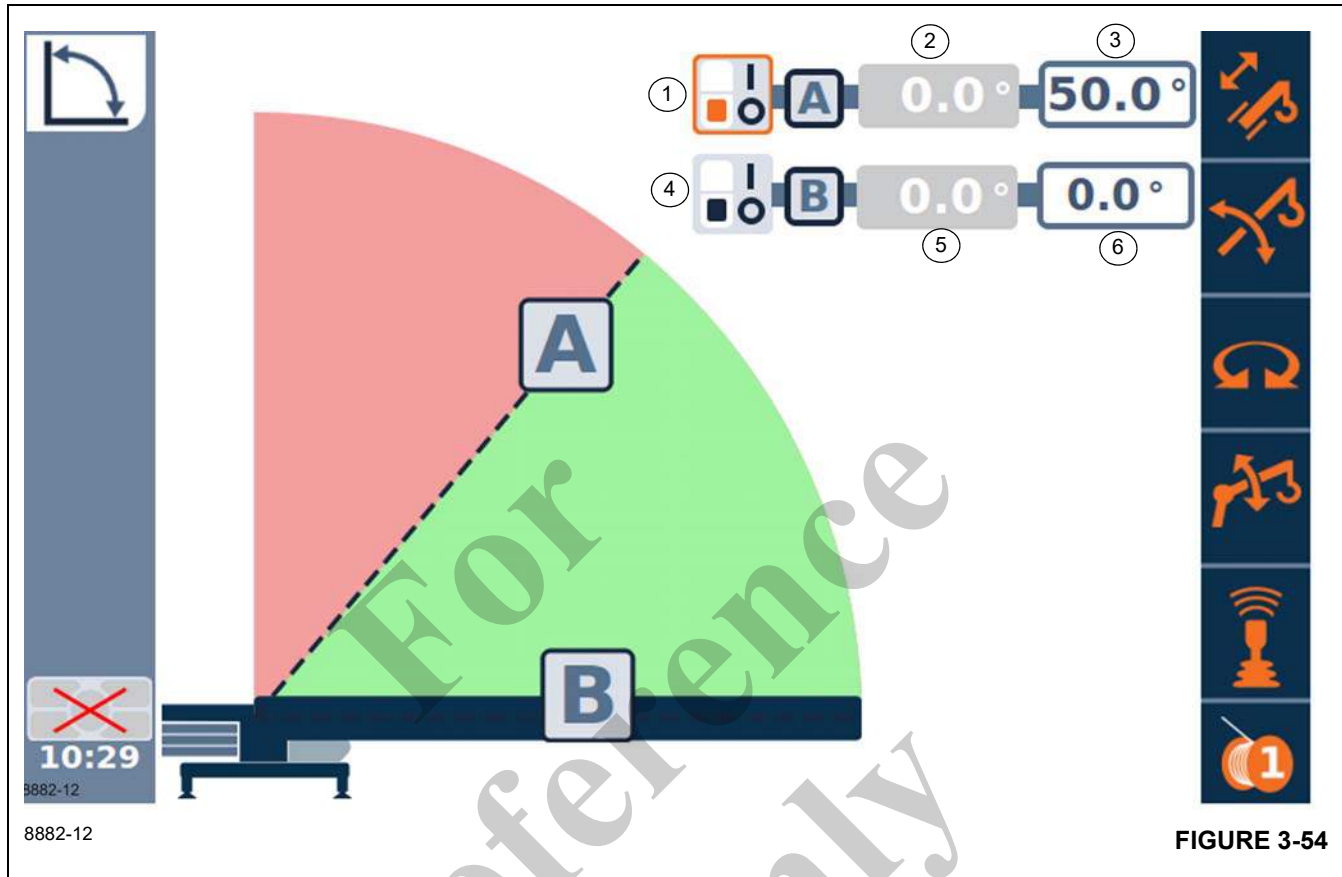

FIGURE 3-54
2. Select the Boom elevation limits menu screen (Figure 3-54) on the Main Menu Screen.
2. Select the Boom Elevation Limits Menu Screen (Figure 3-54) on the Main Menu Screen.
1. Select the Boom Elevation Limits Menu screen (Figure 3-54) on the Main Menu Screen.
2. Use the Right Arrow function to highlight the Switch symbol (1).
4. Use the Right Arrow function to highlight the Enter Upper Lifting Limit value (3).
1. Select the Boom Elevation Limits Menu screen ((Figure 3-54)) on the Main Menu Screen.
2. Use the Right Arrow function to highlight the Switch symbol (4).
4. Use the Right Arrow function to highlight the Enter Upper Lifting Limit value (6).
1. Select the Boom Elevation Limits Menu Screen (Figure 3-54) on the Main Menu Screen.
1. Select the Working Radius Menu screen (Figure 3-54) on the Main Menu Screen.